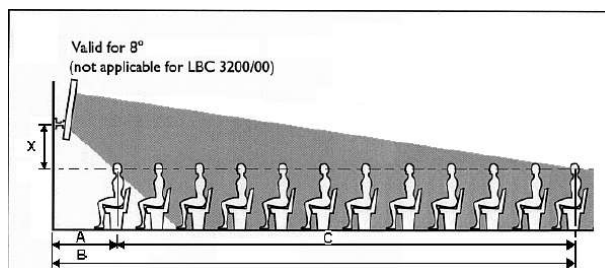
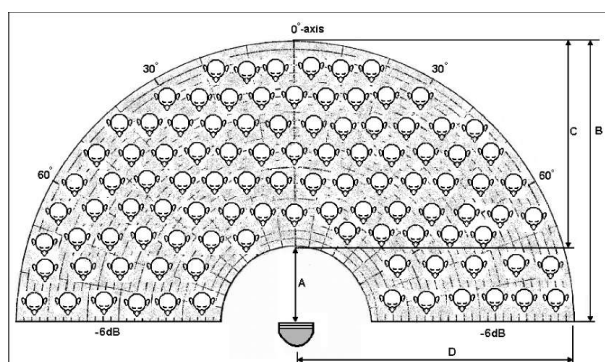
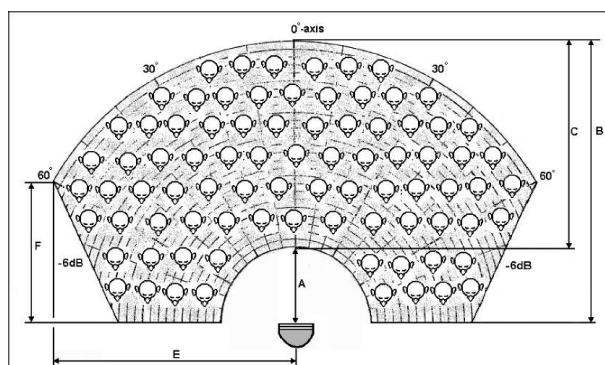

Figure 1: side view of loudspeaker array radiation and listening plan
Figure 2: 1 kHz octave shape of the loudspeaker array
Figure 3: 4 kHz octave shape of the loudspeaker array
- If the height cannot be reached, for example, by limitation of the ceiling, use an angle of less than 8° . Focus the 0° -axis of the loudspeaker array to the desired maximum position (see figure 4). Note that the table in diagram 1 and shapes in figures 2 and 3 are not valid for this situation. Check in the listening area if the speech intelligibility is acceptable.
- The side lines of the shapes of figure 2 and 3 are the -6 dB points related to the sound pressure level on the 0° -axis.
1. Determine the dimensions of the desired 'listening area' (a horizontal plane at the level of the listeners' ears – refer to the dashed line in figure 1).
2. Measure the maximum distance from loudspeaker array to the last listener in the listening area (corresponding to 'B' in figures 1, 2 and 3).
3. Refer to diagram 1, and trace upwards from the maximum distance on the horizontal axis. From the vertical intersection with diagonal B-line, you go horizontal to the vertical axis. The X-value (height of loudspeaker array mounting bracket above the listening plane, 'X' in figure 1) is standing on this axis. The horizontal intersections with other diagonal lines provide information about the dimensions of the listening area. These numbers are related to figures 2 and 3 (see also example below).
4. Figure 2 shows the 1 kHz octave shape radiated by the loudspeaker array and figure 3 shows the 4 kHz octave shape radiation. The listening area with the optimal acoustic performance is in these shapes. Ensure the 4 kHz shape with the dimensions obtained using diagram 1 adequately covers the desired listening area.